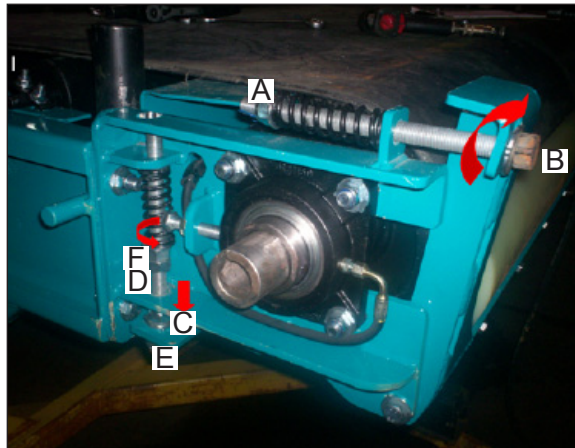

Figure 9.12 - Collection Conveyor Scraper Adjustment
1. Replace locking nut (D), secure adjuster bolt (E) and turn the tension nut (F) anti-clockwise. Re-tighten the locking nut (D). Refer figure 9.12.